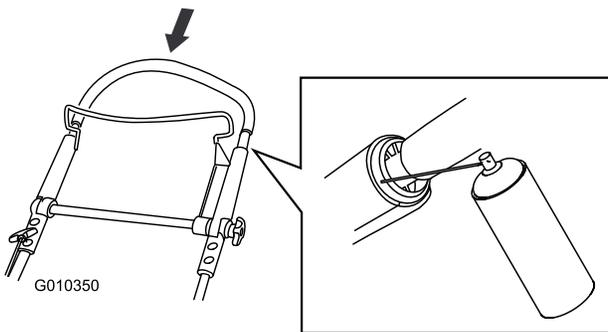

Figure 44
2. Push the upper handle fully down and spray the inner plastic surface of the outer handle (Figure 44).